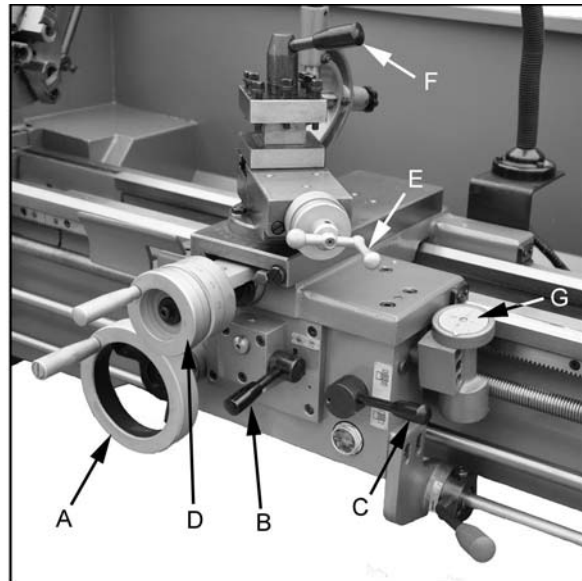

Figure 17
11. **Longitudinal Traverse Handwheel** (A, Fig. 17) – Rotate handwheel clockwise to move the apron assembly toward the tailstock (right). Rotate the wheel counter-clockwise to move the apron assembly toward the headstock (left).
12. **Feed Selector** (B, Fig. 17) – Push lever to the left and down to activate the crossfeed function. Pull lever to the right and up to activate the longitudinal function.
13. **Half Nut Engage Lever** (thread cutting) (C, Fig. 17) – Move the lever down to engage. Move the lever up to disengage.
14. **Cross Traverse Handwheel** (D, Fig. 17) – Clockwise rotation moves the cross slide toward the rear of the machine.
15. **Compound Rest Traverse Handwheel** (E, Fig. 17) – Rotate clockwise or counter-clockwise to move or position.
16. **Tool Post Clamping Lever** (F, Fig. 17) – Rotate counter-clockwise to loosen and clockwise to tighten. Rotate the tool post when the lever is unlocked.
17. **Threading Dial** (G, Fig. 17) – Engage by pushing into the leadscrew. Pull out to disengage. The dial indicator and chart will specify at which point a thread can be entered.